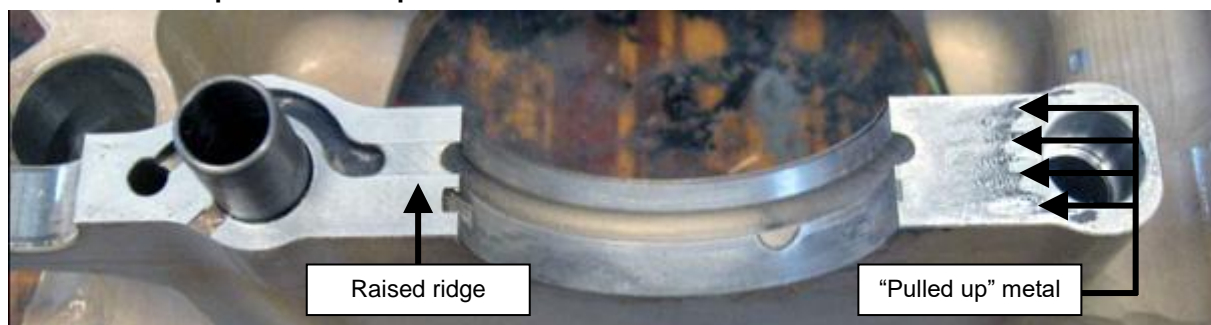

Figure 71 – Crankcase Fretting
- Inspect the cases for fretting around the main bearing posts. If fretting can be detected (either by observation and/or by feeling roughness against your fingernail across the affected area – see Figure 71) then it must be corrected by having both case halves surface skimmed and the bearing tunnels bored to the correct dimensions before return to service.